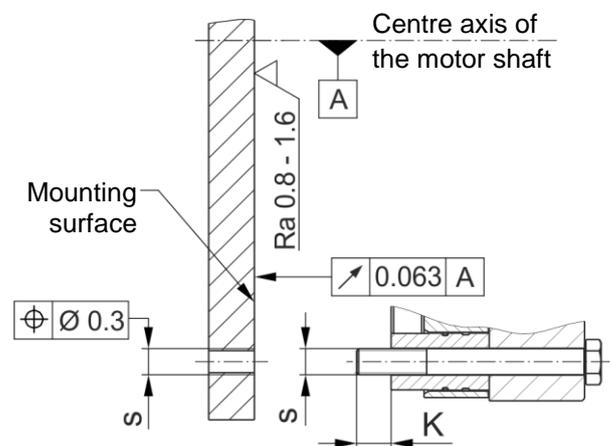

Fig. 8
- ❑ On hub designs the tolerances of the hub bore (15) and the shaft must be selected so that the hub tothing (15) is not widened. Widening of the tothing leads to the rotor (3) jamming on the hub (15) and therefore to brake malfunctions. Recommended hub – shaft tolerance H7/k6. If the hub (15) is heated for better joining, the O-ring (16) must be removed beforehand and re-mounted after hub installation. The max. permitted joining temperature of 200 °C must not be exceeded.
- ❑ Dimensioning of the key connection according to the requirements shaft diameter, transmittable torque and operating conditions must be carried out. For this, the corresponding user data must be known or the customer must carry out the dimensioning according to the valid calculation basis DIN 6892. For the calculation, a hub quality of $Re = 300 \text{ N/mm}^2$ should be used. The length of the key should lie over the entire hub (15).
- ❑ The mounting dimensions and the tapped holes s with depth $K + 2 \text{ mm}$ ($K = \text{screw projection}$) must be provided according to the Catalogue or the applicable assembly drawing (Fig. 8).
- ❑ The O-ring (8) or O-ring (16) must be lightly greased.
- ❑ The toothings of the motor shaft rotor (3) and the hub (15) must not be oiled or greased.